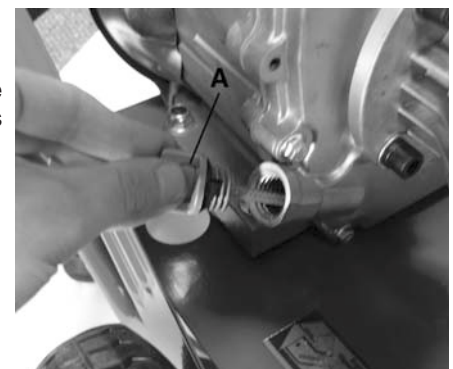

Figure 4
- 1) Turn the oil gauge dipstick (A) Fig.4 counterclockwise, remove it and clean it with a clean cloth.